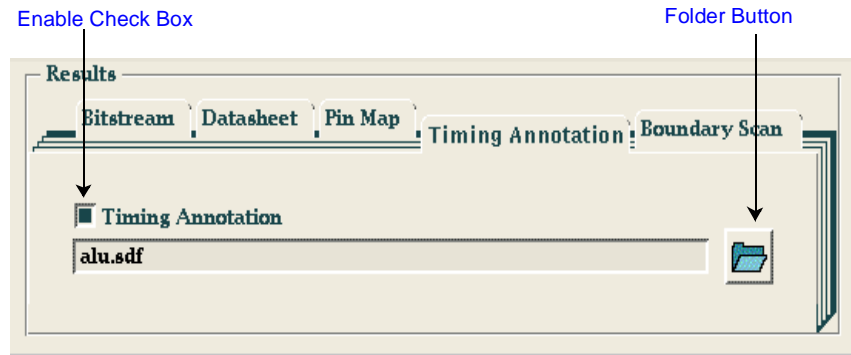

Figure 2-12. Results Area of the Design Executive Window
1. **Click the tab of the result file you want to generate.** Figure 2-12 shows the Timing Annotation tab.